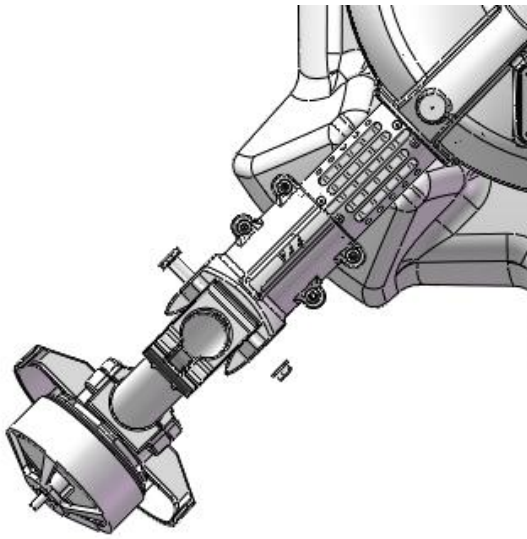

Figure 2-2
- 4) M5 nut should be tightened from the other side, see figure 2-2.